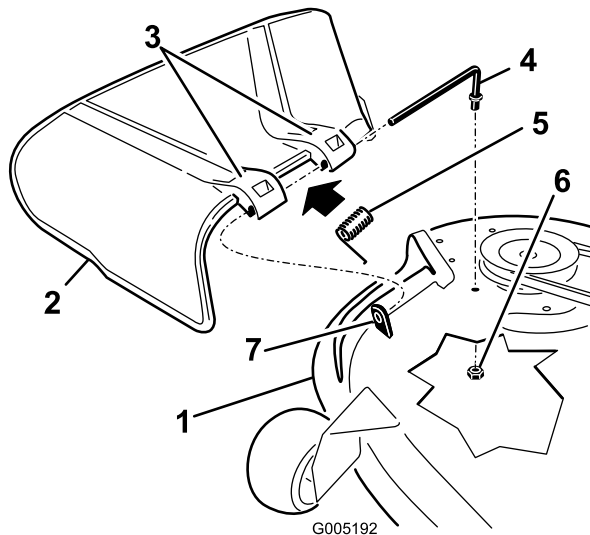

Figure 57
1. Locate items shown in Figure 57.
2. Remove the nut (3/8 inch) from the rod under the mower (Figure 57).
3. Slide the rod out of the short stand-off, spring, and grass deflector (Figure 57). Remove the damaged or worn grass deflector.
4. Replace the grass deflector (Figure 57).
6. Place the spring on the rod, with end wires down, and between the grass deflector brackets. Slide rod through second grass deflector bracket (Figure 57).
7. Insert rod at front of grass deflector into short stand-off on deck. Secure rear end of rod into the mower with a nut (3/8 inch) (Figure 57).